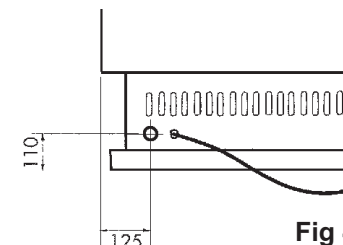

Fig 4.
- Switch the heater to Hi Flame to as indicated in Fig 4(a) and using a ring spanner and screwdriver, as per Fig 4(b), hold screwdriver in position and adjust Hi Flame using spanner adjust the pressure to:
10. Connect incoming gas supply pipe to $\frac{1}{2}$ " compression fitting at rear of appliance. For inlet position see Fig 4.